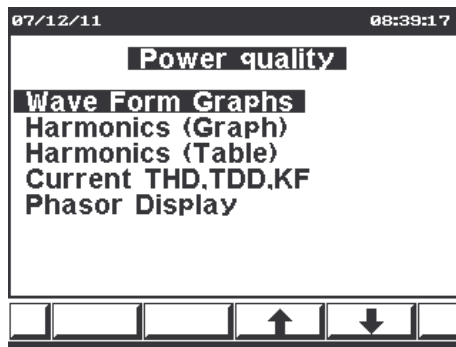

Figure 5.14. Power Quality
- 2 Click “Enter”, the **Power Quality** screens appears (Figure 5.14).